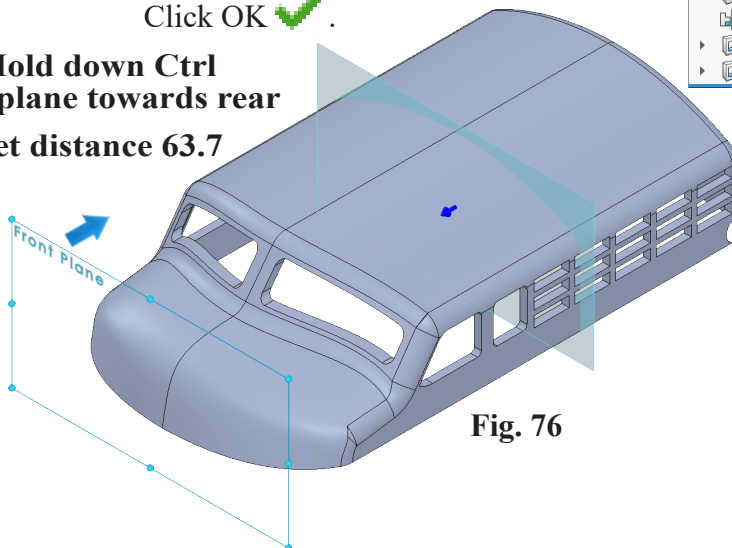

Fig. 76
Step 2. In graphics area **Ctrl drag Front plane to rear** and release, **Fig. 76**.